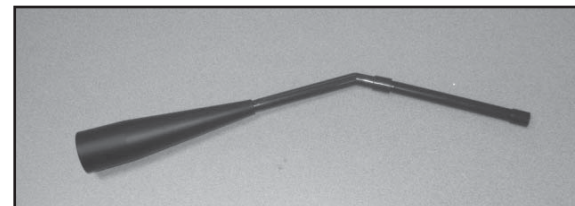

Figure 17.4
- Assemble the crevice tool from the micro cleaning kit to attach to a Shop Vac. **Figure 17.4.**